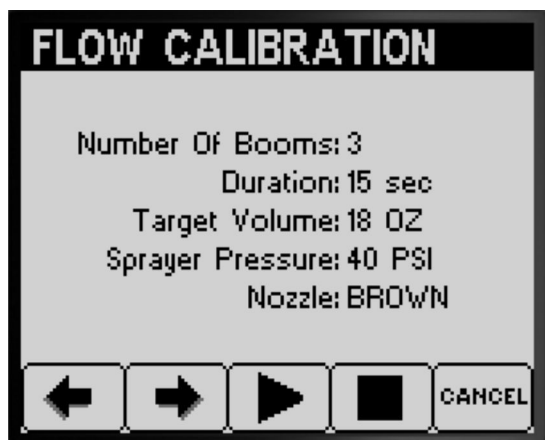

Figure 50
4. At the catch test playback screen, confirm the number of booms, the nozzle color, and press button 3 to start the catch test (Figure 50).